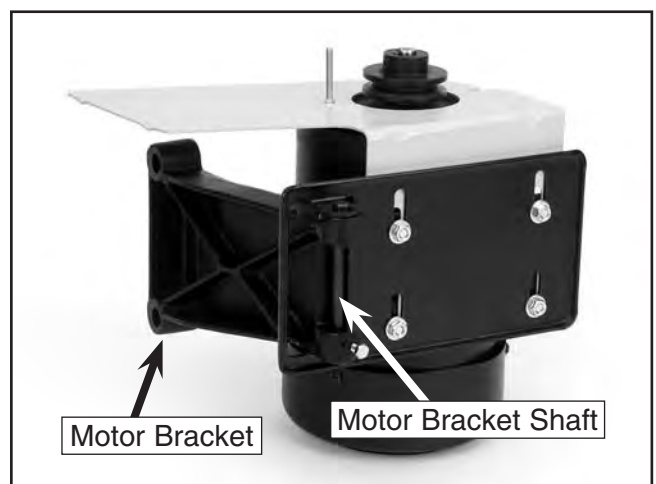

Figure 19. Installed motor bracket.
- Secure the motor plate to the motor bracket with the motor bracket shaft (**Figure 19**). **Note:** The hex bolt on the motor bracket must align with the groove on the motor bracket shaft.